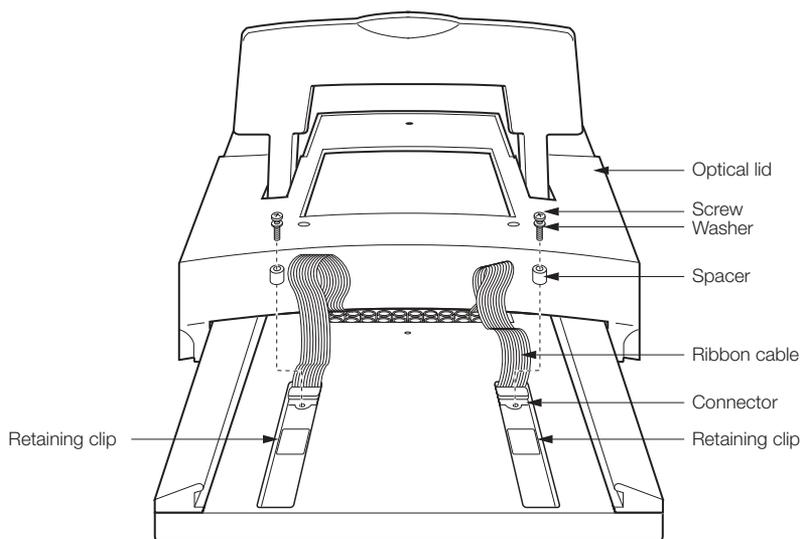

Fig. 3. Disconnecting the ribbon cables between the lid and the reaction module (rear view).
3. Push the green latches down and move the lid forward 16–18 cm (6–7"), exposing the ribbon cables at the back of the reaction module (Figure 3).
4. Gently remove the cables from beneath the plastic retaining clips (Figure 3).
5. Using a Phillips screwdriver, remove the two screws, washers, and spacers behind each ribbon cable connector (Figure 3).
2. Plug the two ribbon cables into place (Figure 3).